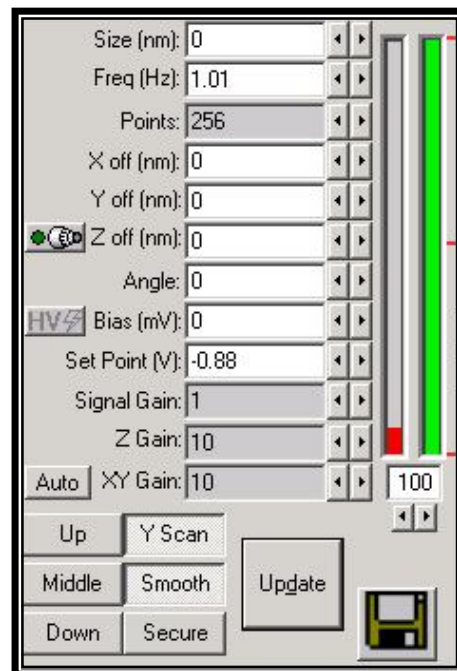
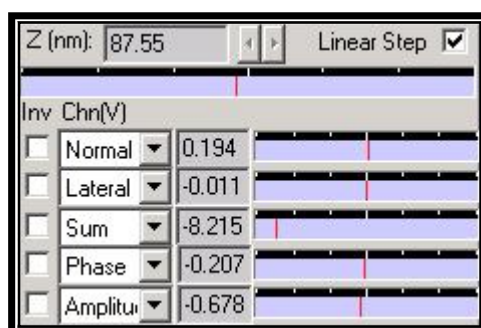
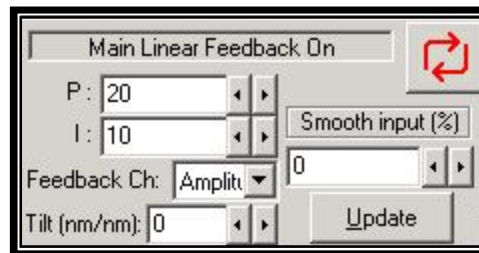

Fig. 4.27
Fig. 4.29
Fig. 4.30
14. In the Control Menu (see Fig. 4.27. This menu is usually already opened, button ) , insert the scanning Frequency (Freq (Hz)) and the Number of Points in one scan line.
Wait a few seconds to give time for the system to change into Dynamic Mode, and press Update in the Control Menu. Then the values of the different channels will be updated in the Channels Values Menu. This menu is usually already opened. If not, you can see it by pressing  (see Fig. 4.29).
- The Set Point value in the Control Menu (Fig. 4.27) will be used by the feedback system to control the tip-sample distance. In Dynamic Mode, the feedback channel is the Amplitude of the cantilever oscillation, CH15 (you can see it in the Feedback Menu, Fig. 4.30). The system keeps it constant, by comparing the Set Point value with the value from CH15 (you can see it in the Channels Values Menu, Fig. 4.29), changing the tip-sample distance to keep the Amplitude constant.
To set an initial value for the Set Point, before approaching, check the Amplitude value (channel 15, CH15) in the Channels Values Menu (see Fig. 4.29).
16. In the Feedback Menu (see Fig. 4.30. This menu is usually already opened, button ). Insert feedback parameters P and I (Proportional-Integral). As a general rule, take P = 20 and I = 10 as initial values.
To do it by software, take a look to the Z values, on the top of the Channels Values Menu (see Fig. 4.29). This value is telling you the Z off in nm. Just add that number to your Z off and the green bar will be centered. As a general rule, anytime you want to center it, add the value you see in the Channels Values Menu to the current value placed in the Zoff dialog.
The Set Point value will be used by the feedback system to control the tip-sample distance. In Contact Mode, the feedback channel is the Normal Force, CH1 (you can see it in the Feedback Menu, Fig. 4.30). The system keeps it constant, comparing the Set Point value with the Normal Force value from CH1 (you can see it in the Channels Values Menu, Fig. 4.29), changing the tip-sample distance to keep the Normal Force constant.
To set an initial value for the Set Point, before approaching, check the Normal Force value (channel 1, CH1) in the Channels Values Menu (see Fig. 4.29). Since you have tuned the photodiode in the Photodiode Menu, making the red and the green crosses coincide, the Normal Force and the Lateral Force should be ≈ 0 . Place the initial Set Point around 0.2-0.4 V, as shown in the next figure:
The Z values are monitored using an indicator bar in the Channels Values Menu (see Fig. 4.29). The width of this indicator bar displays the range of the data along the Z axis. If the indicator bar width is very small compared to the range of the scanner, you will observe an indicator bar that appears as a short vertical line (one-pixel in width, as in Fig.4.29). This means that your gain is large (you have a lot of extra range).